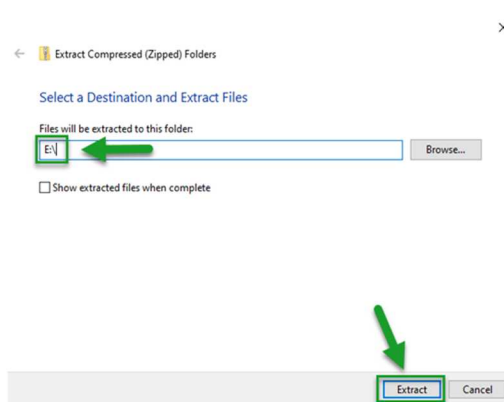

Figure 24. Modified Text and Extract Button
- c. Erase the text after the USB letter you noted (here: E:\, yours can be different). Tap **<Extract>** (Figure 24).